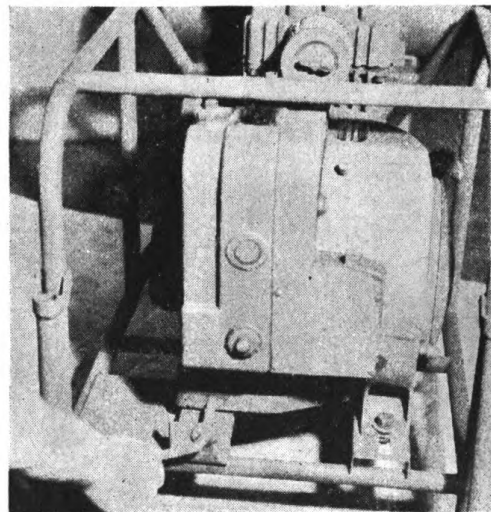

FIGURE 13
6. Check V-belts for tension. Do not tighten too much. Belts should have $\frac{1}{2}$ " deflection. Also check pulleys for proper alignment. Figure 13.